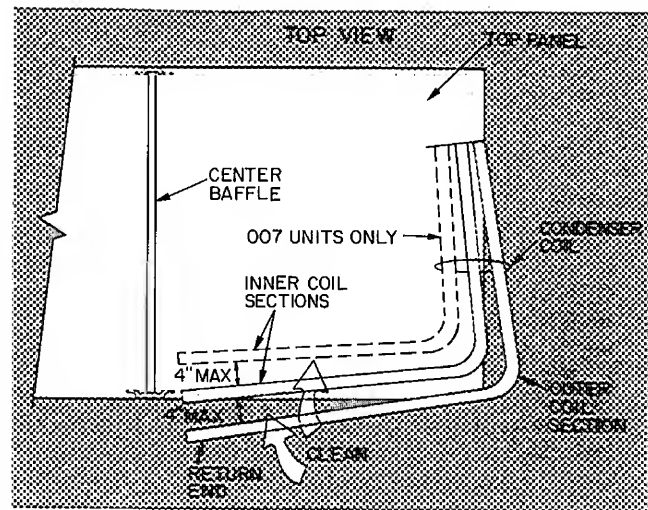

Fig. 34 — Separating Coil Sections
4. Remove device holding coil sections together at return end of condenser coil. Carefully separate the outer coil section 3 to 4 in. from the inner coil section. See Fig. 34.